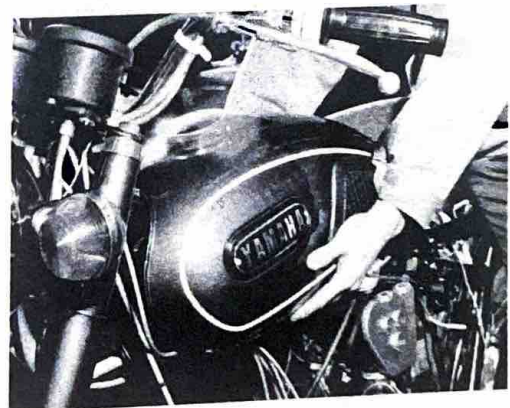

Fig. 5-8-5
- 5) Raise the rear part of the tank, and slide it rearward to remove the tank. (Fig. 5-8-5)